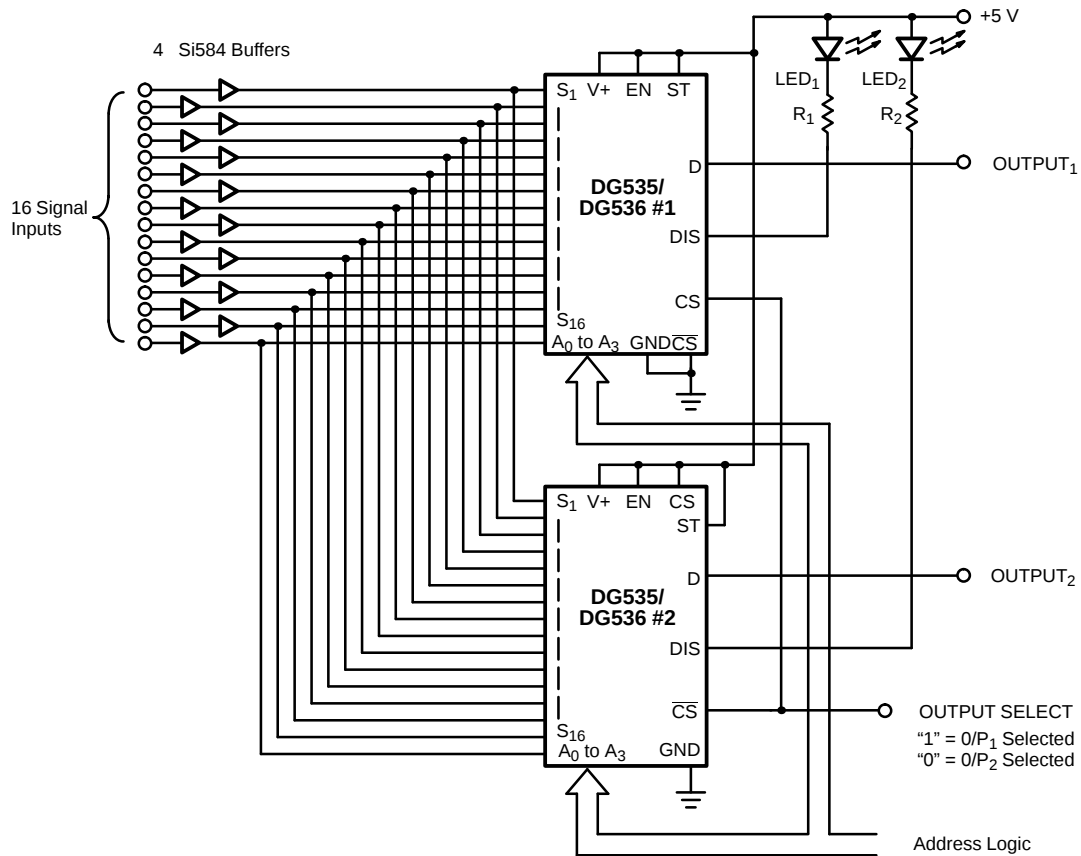
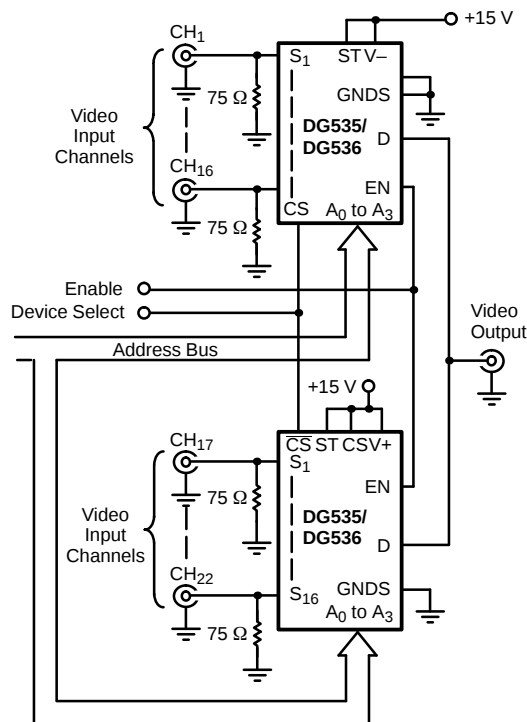
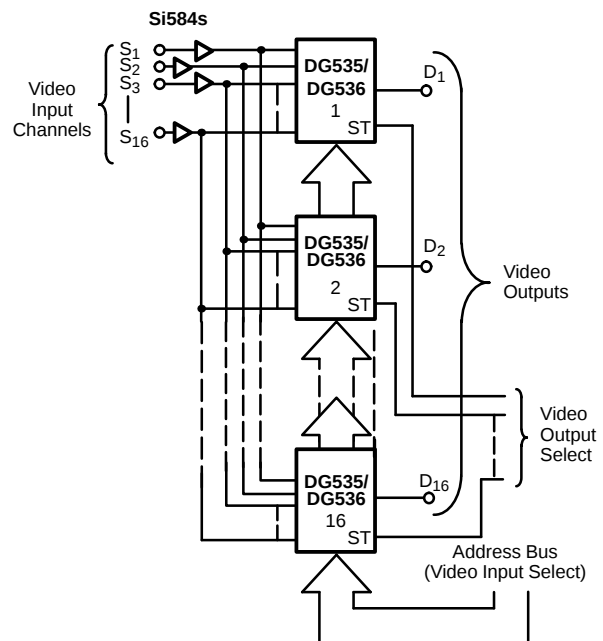

FIGURE 11. The DG535/536 as a 16 × 2 Matrix Switch
FIGURE 12. 32-Channel Multiplexer
FIGURE 13. 16 × 16 Video Crosspoint Circuit
An additional feature, a DIS pin, is an open drain terminal with the source tied to the device substrate. The DIS terminal represents a high impedance to the substrate (normally ground) when the DG535/536 is disabled and a low impedance to ground when the DG535/536 is enabled. This output can be used to indicate which device in a large matrix has been enabled (see Figure 13), or it can be used to switch off circuitry following the multiplexer stages.
Figure 11 illustrates how the DIS (disable) pin can be used to indicate which output is selected. When logic 1 is applied to output select, device 1 is enabled and device 2 is disabled. With device 1 enabled, the DIS pin is connected to signal ground, thus turning LED 1 on. With device 2 disabled (due to $\overline{CS}$ being 1), its DIS pin represents a high impedance to ground and LED 2 is off.
The circuit in Figure 11 also illustrates how the chip select inputs can be used. As shown in Figure 12, a 32-channel single-ended multiplexer can be configured without external chip select circuits. This circuit makes use of the $\overline{CS}$ and $\overline{CS}$ inputs which allow device selection from a single control line.
The basic circuit shown in Figure 11 can be extended and elaborated to give a 16 x 16 matrix for video crosspoint applications such as central routers used in video studios. This circuit, shown in Figure 13, allows source (or video input) to be connected to any video output (or any number of outputs). The strobe input (ST) on each device is used to latch the appropriate address into that particular device. By strobing the required address into each device sequentially, any crosspoint connection can be made.
The circuit shown in Figure 13 can be used as a digital cross-point to replace expensive, power consuming ECL crosspoint ICs. Besides handling raw digital data, the DG535/536 can also be used for other forms of data transmission, such as FSK and PCM systems.
RZ (returns to zero) PCM data consists of three discrete (ternary) levels to overcome long periods of zeroes (Figure 13). Digital signals can degrade beyond legibility after only a few hundred yards of travel down a transmission line. Therefore, the PCM signals must be regenerated at regular distances to avoid excessive distortion.